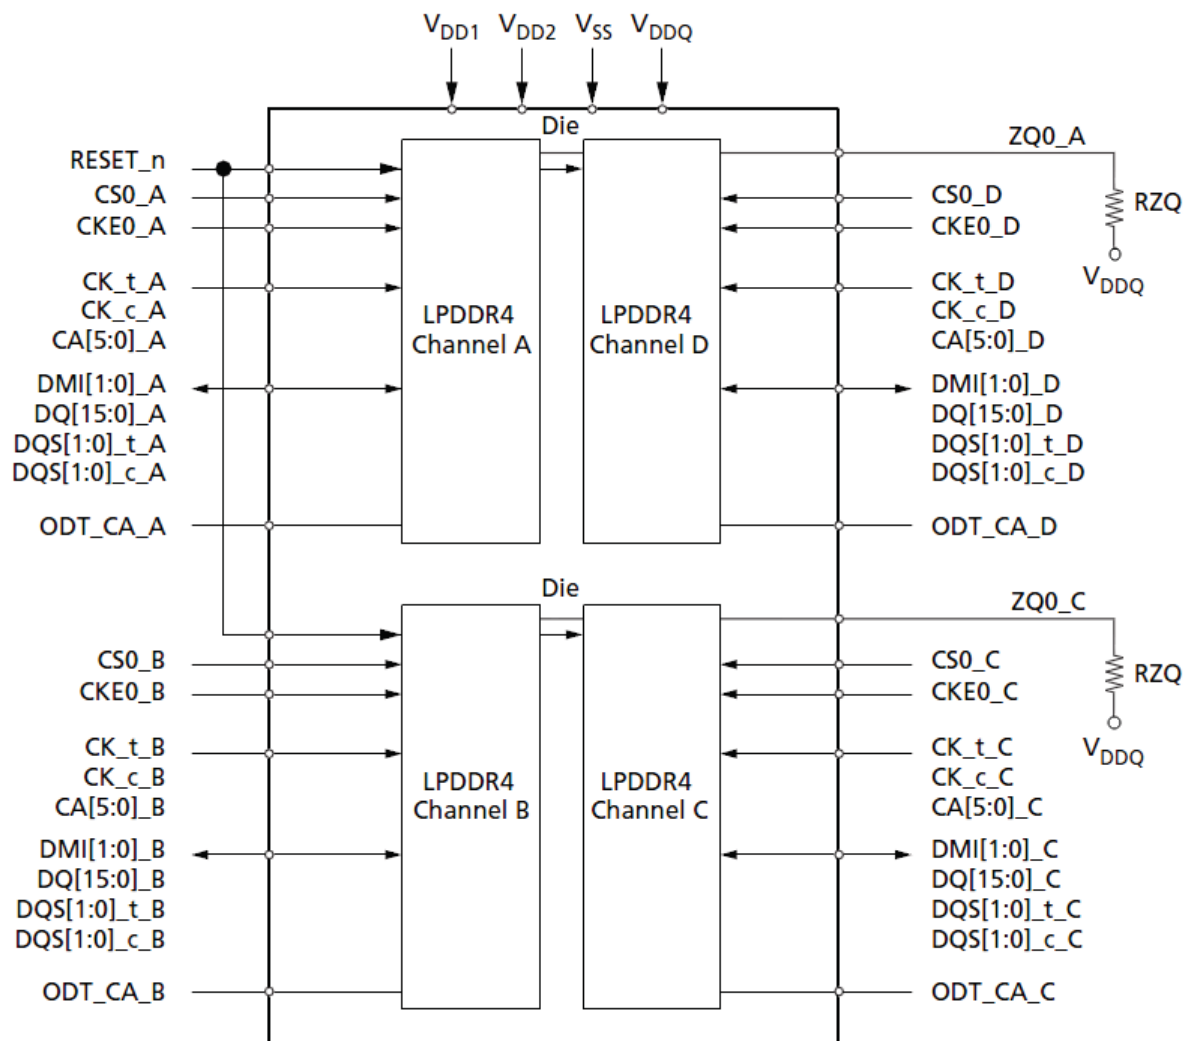

Figure 4-11 LPDDR4 SDRAM Block Diagram
- One LPDDR4 SDRAM has four 16 bits channels, two channels share a ZQ pin, shown as Figure 4-11. In the design, only the A and B channel or C and D channel can be respectively combined as a 32bits channel, and connected respectively to the RK3399 two 32bits DDR controller.